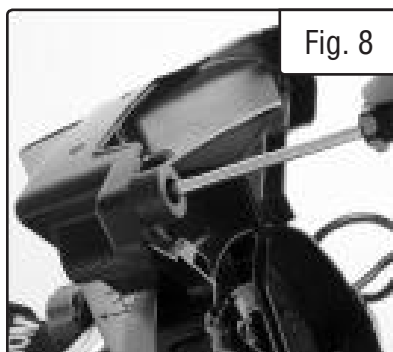

Fig. 8
4. Finger tighten nuts and make sure the miter saw is securely mounted onto the mounting brackets (Fig. 8).